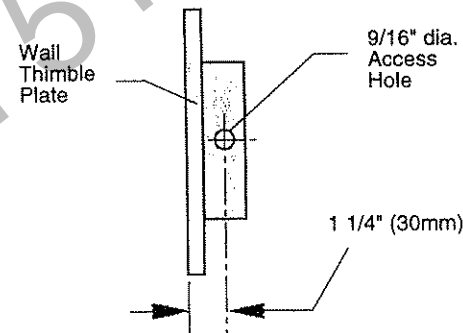

Figure 28. Drill out the wall thimble access hole.
- 3. Drill Wall Thimble.** With the stove installed at minimum clearance, insufficient room exists to back the wall thimble away from the cutout to allow access for attaching the vent cap mounting straps. Before assembly, drill one 9/16" dia. access hole through the side of the thimble near the seam to allow attachment of the straps. Fig.28.